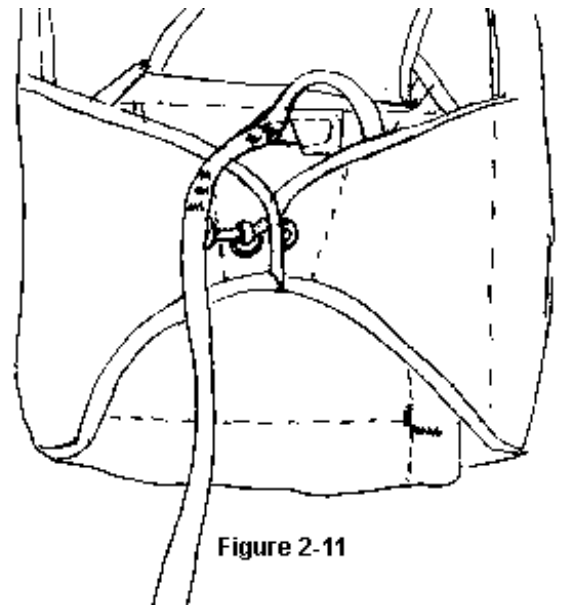

Figure 2-11
Step 16 Close the right side #3 side flap, then the left side #4 flap in the same manner. Insert curved pin through loop and remove pull-up cord SLOWLY to avoid damaging loop. Insert bridle tab into pocket on the sub flap. (Figure 2-11)